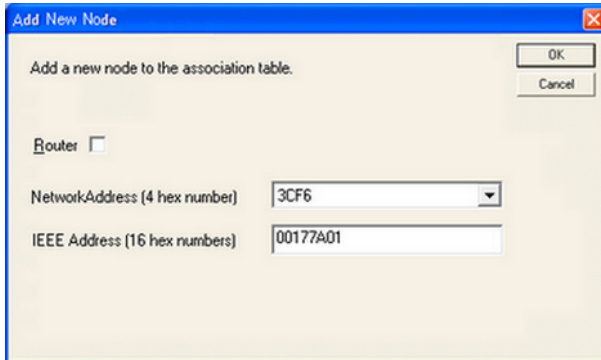

Figure 34
1. When **Add Node** is chosen in the right-click menu of a gateway or router, a dialog as in Figure 34 is shown.